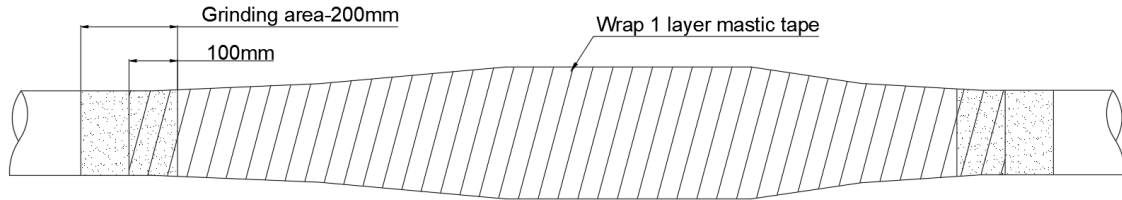

Fig.13
- From the outer jacket of the cable: the 200mm area needs to be polished and cleaned, wrap 1 layer mastic tape as shown Fig.13 (200% stretched, semi-lapped winding).